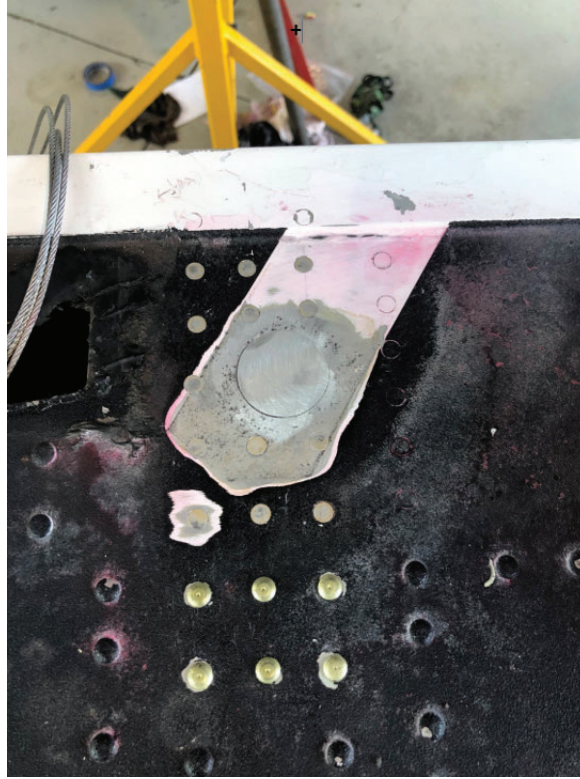

Figure 5 - Installed Doubler
- c. Install doubler. Use flush rivets as needed per Figure 5 to avoid future contact with the drag strut.